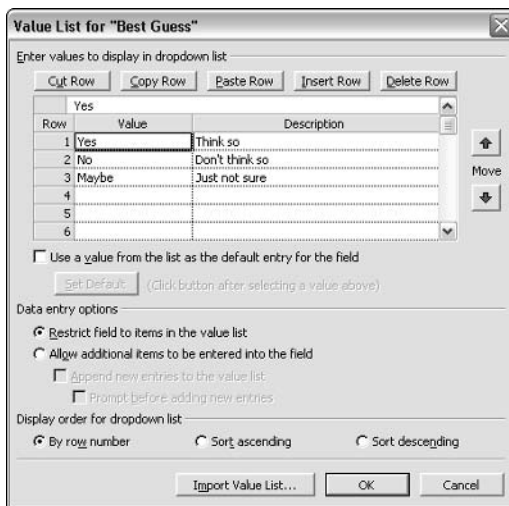

Figure 23-2: Use this dialog box to define the values that you want Project to display in the pick list during data entry.
4. Click the Value List button to display the value list for Field Name dialog box, as shown in Figure 23-2.